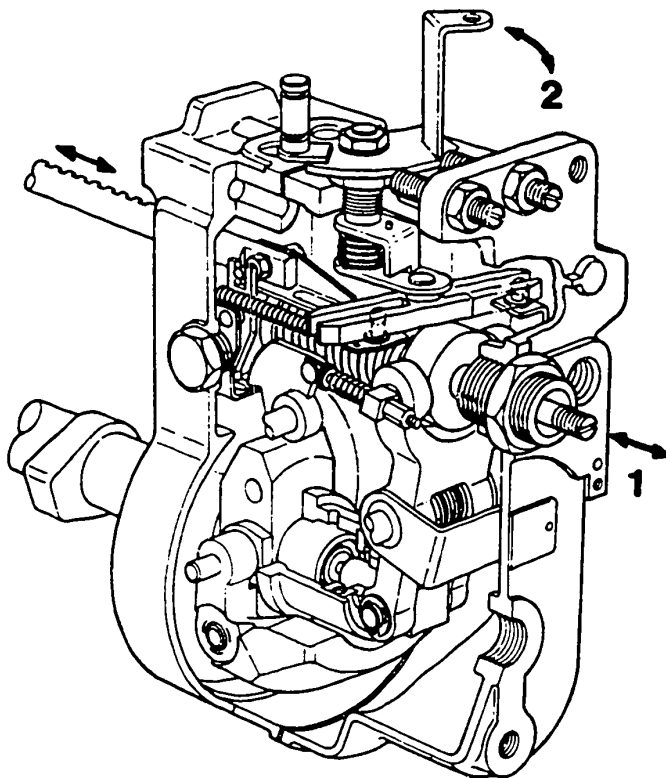

Fig. 83: Checking and confirming slip resistance of governor shaft and control rod
15. Check the following after assembling the governor cover (Fig. 83):